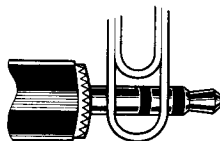

Fig. 2
2. Now test the Transport by itself (not connected to Big Trak). Make sure the Transport has a fresh battery that is properly connected with both terminals making good contact. Then, make a temporary connection on the Transport plug (See Fig. 2) by pressing a metallic object (such as a paper clip) firmly against the two areas shown at the same time. Hold it there for several seconds.